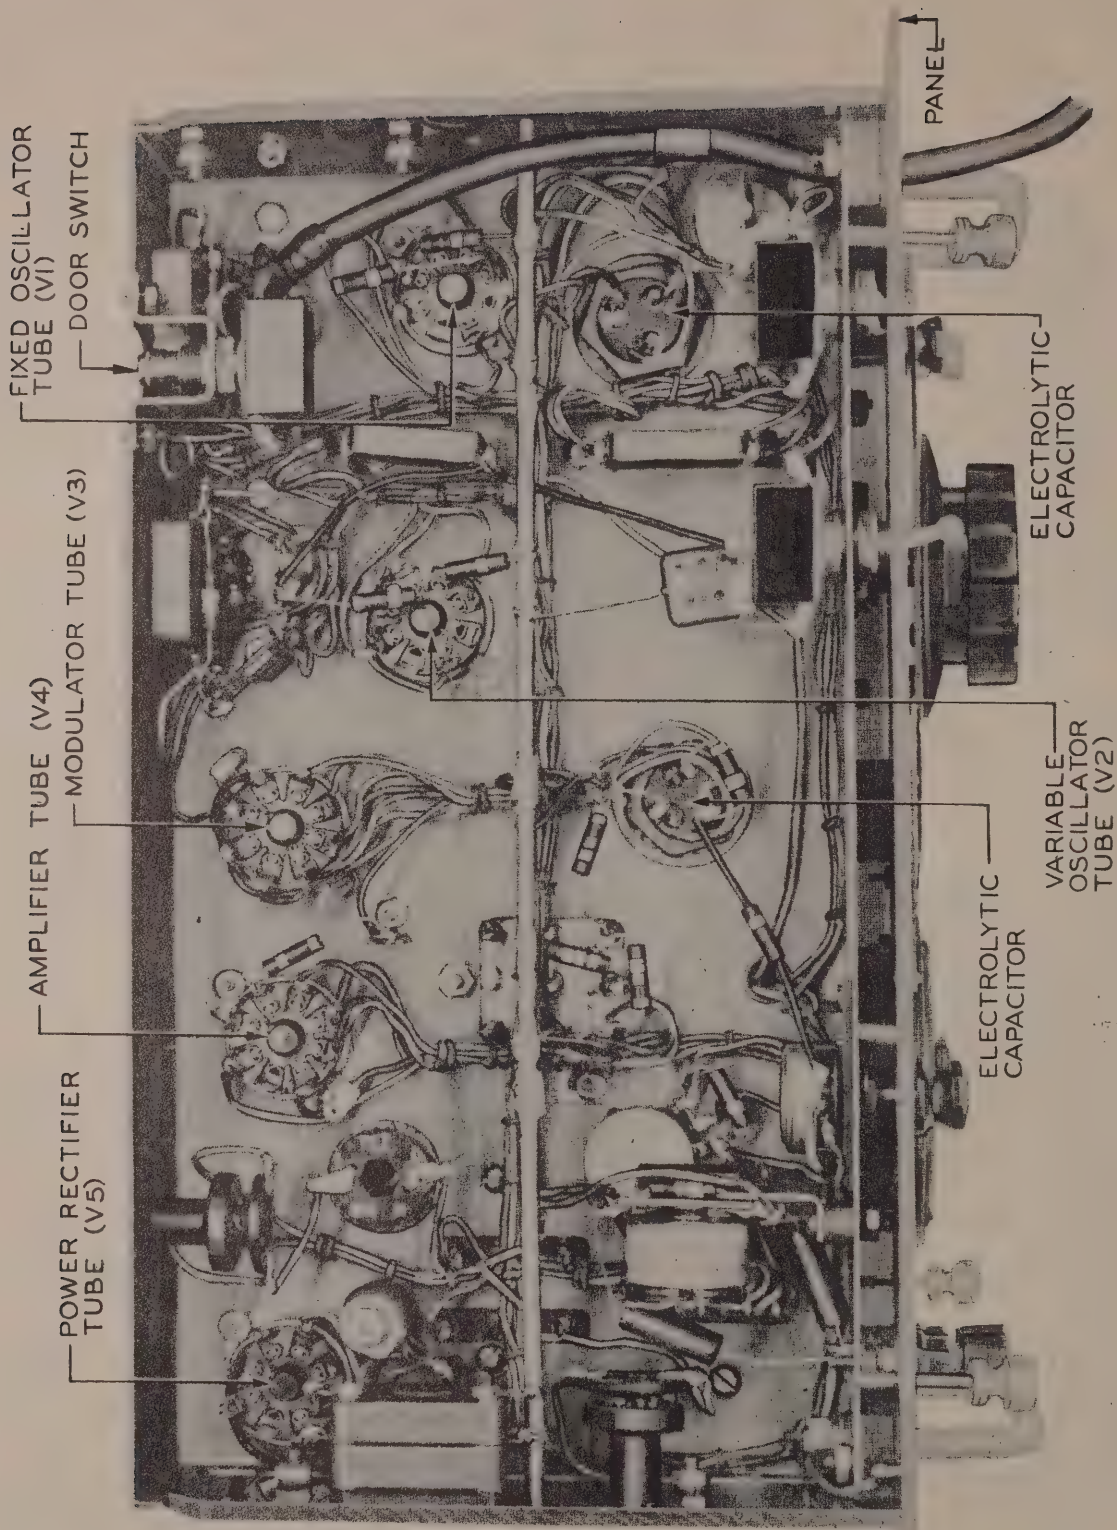

Figure 3 - 19C (SPL) Oscillator, Terminal and Wiring Side of Chassis
c. Figure 3 shows the wiring side of the equipment.